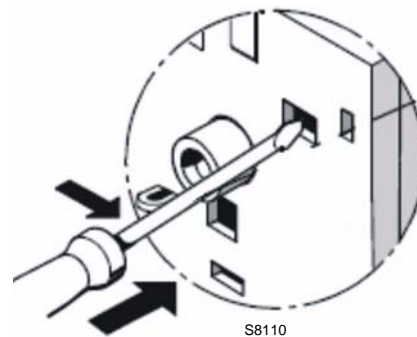

Fig. 22
- **Contact test NC (95-96) and NO (97-98)(Fig. 22)**